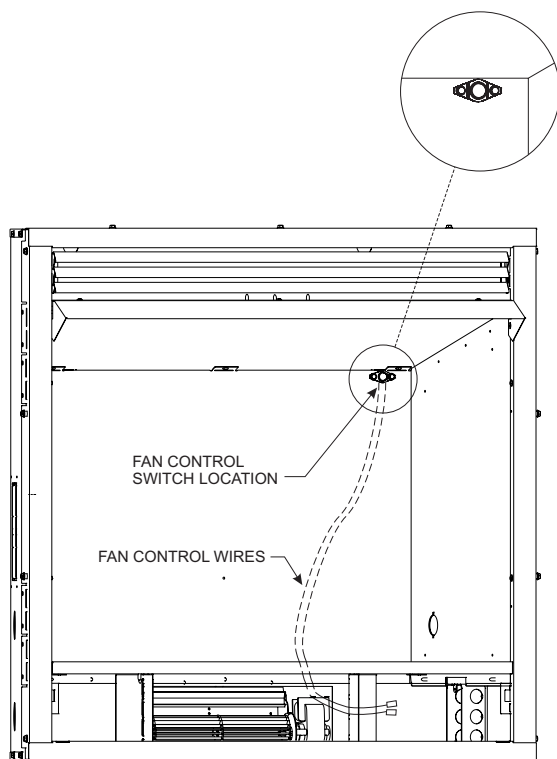

Figure 23
6. Next, find the fan control switch and wire assembly. Feed the wires through the hole at the top of the firebox, and secure the fan control switch with two #6 screws provided. **See Figure 23.**
7. The fan control wires will slide down between the firebox and outer wrap near the blower assembly. **See Figure 23.**